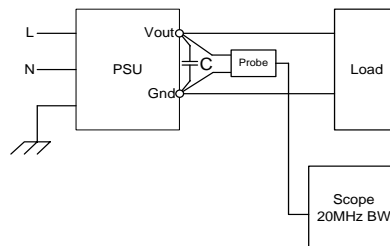

Figure 19. Output Ripple Test Setup
- Outputs bypassed at the point of measurement with a parallel combination of 10 μ F tantalum capacitor in parallel with 0.1 μ F ceramic capacitors, referring the setup in Figure 19.